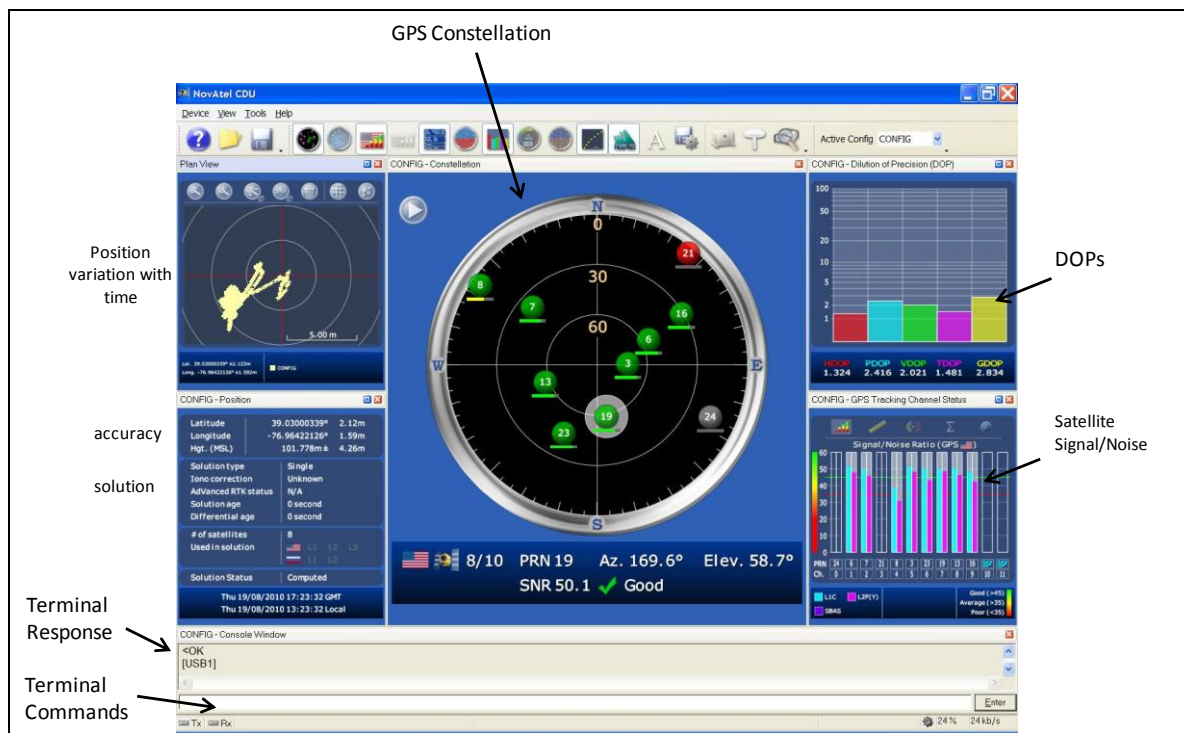

Figure 4. Novatel CDU software.
8. Run the Control and Display Unit (CDU) program on the laptop, identify the correct COM port and connect to the GPS receiver. Figure 4 shows a typical display of the CDU window.